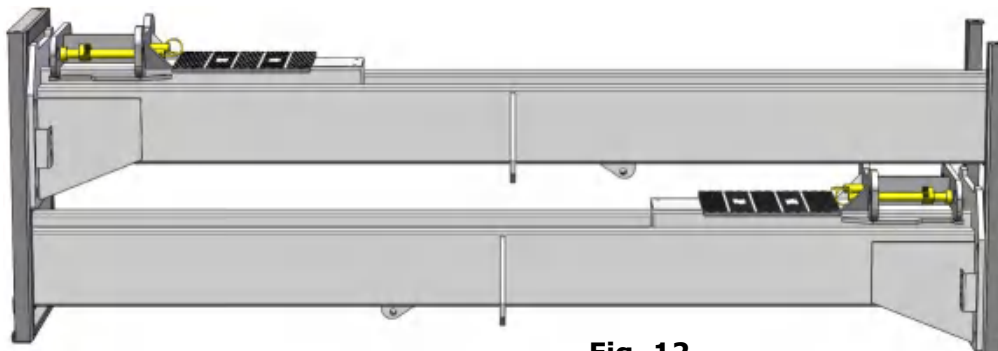

Fig. 12
3. Take out the parts on and inside the column of top layer, then move aside to the installation site. (See Fig. 12).